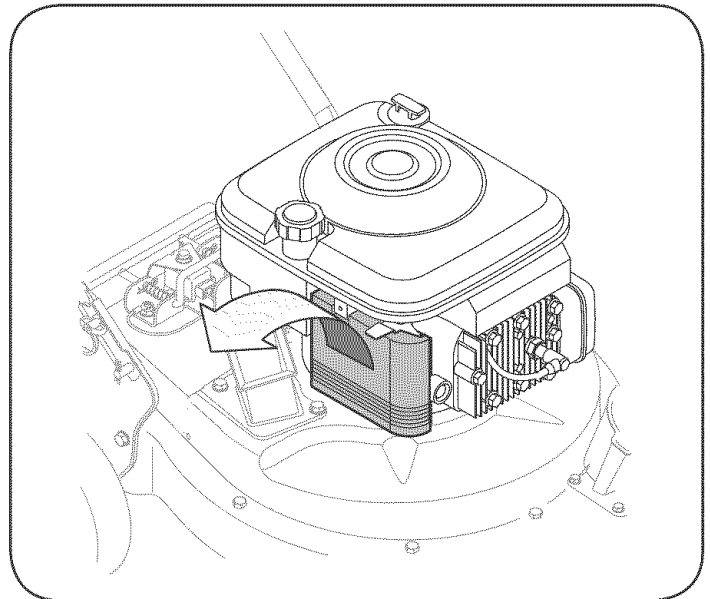

Figure 15
1. Loosen screw and tilt plastic housing cover on side of engine down. See Figure 15.